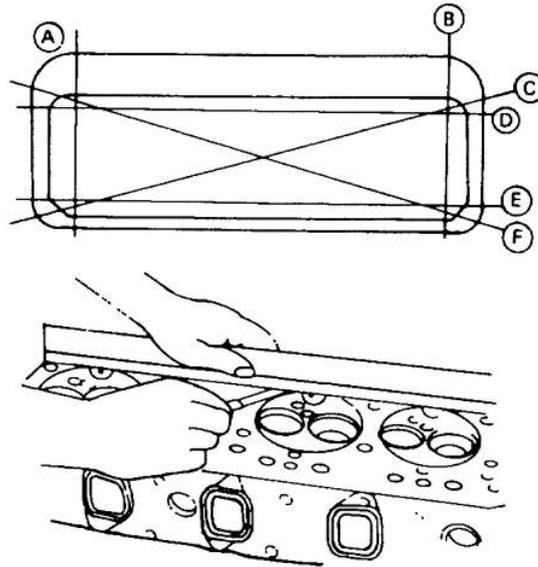

Figure 22 Checking for Cylinder Head Distortion
- b. Check the cylinder head for scratches, cracks, gouges and distortion. Using a straight edge and feeler gauge, check that the cylinder head distortion is less than 0.20 mm (0.008 in) in several directions (Figure 22). Replace the cylinder head as necessary.